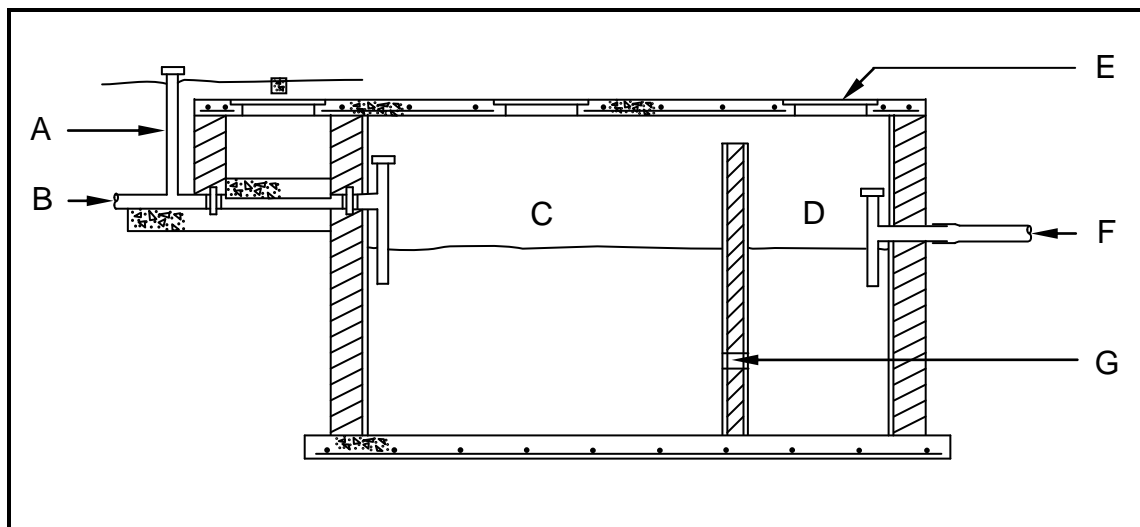

FIGURE 3.3
- 3.3 FIGURE 3.3 below shows a septic tank. Study the drawing and answer the questions that follow.